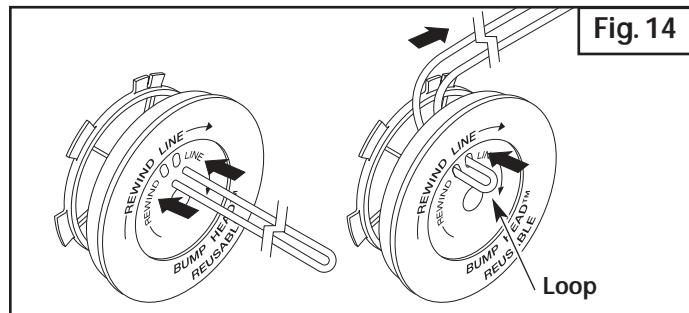

Fig. 14
6. Cut approximately 25 feet (7.6 m) of new trimming line, then loop it into two equal lengths. Insert each end of the line through one of the two holes in the inner reel (Fig. 14). Pull the line through the inner reel so that the loop is as small as possible.